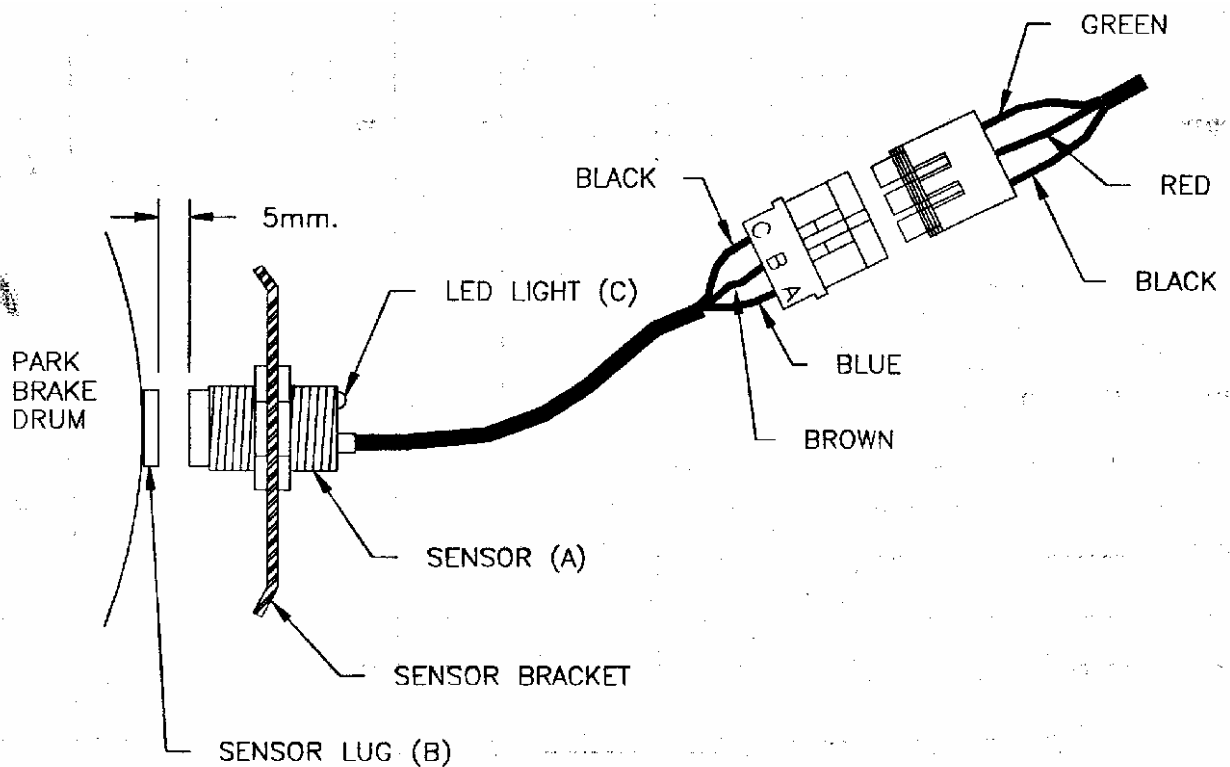

Fig. 3 - Speedo Sensor
The gap between the sensor (A. Fig. 3) and the park brake drum lugs (B) should be 5mm as shown in figure 3 below. All the lugs should have the same 5mm gap between the sensors to register correct road speed.
With the ignition on, vehicle in 2WD and the rear wheels off the ground, spin the brake drum and observe the Led Light (C. Fig. 3). The Led Light should flash and Speedo should operate, if the Led Light does not flash the gap between the lugs and sensor need setting or the sensor is faulty. If Speedo does not operate and the sensor flashes, there is a fault in the wiring or the Speedo is faulty.